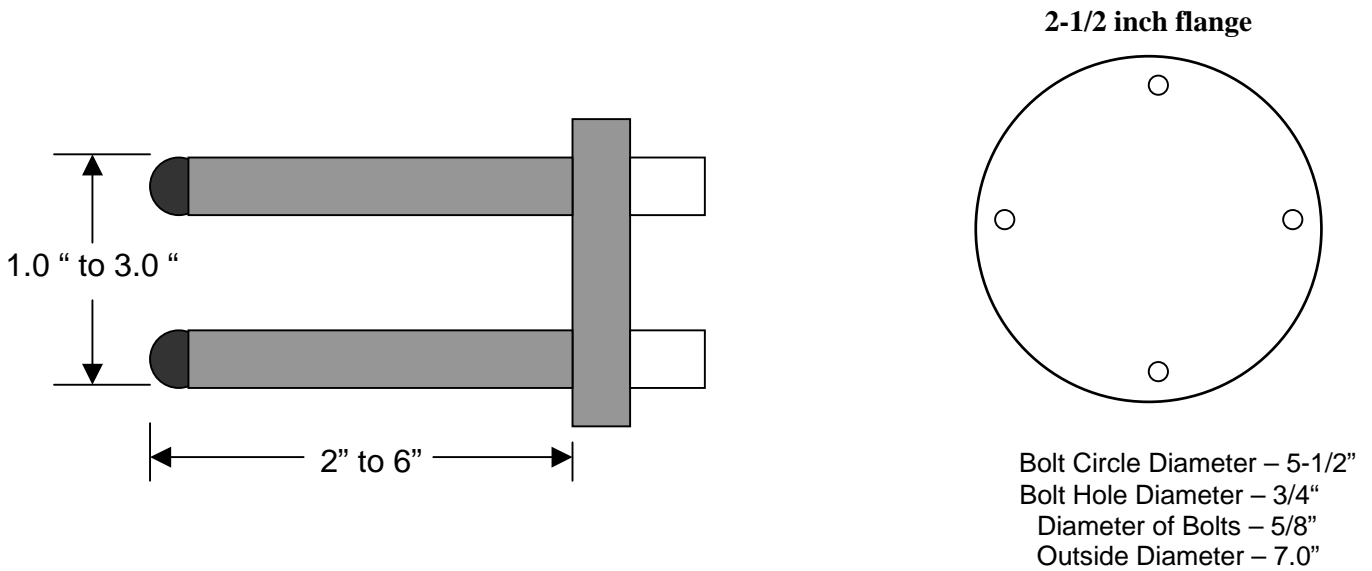

Figure 3 Insertion Sensor on 2-1/2" Flange
- a) Insertion Sensors mounted on a 2-1/2" Flange (Figure 3).